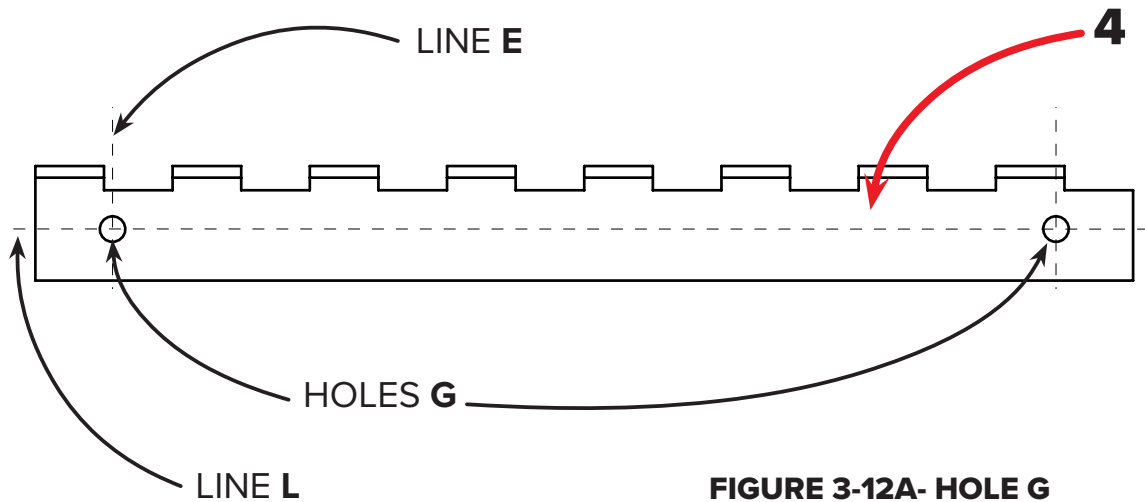

FIGURE 3-12A- HOLE G
17. MARK the 2 holes **G** of the ends, by the intersection of the **L** and **E** lines (figure 3-12A);